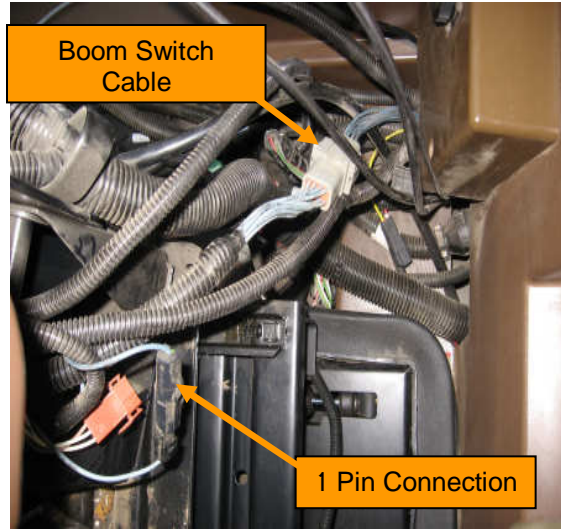

Fig. 3: 1 Pin foot switch connector
4. Locate the 1 pin connector next to the boom switch cable (Fig. 3).